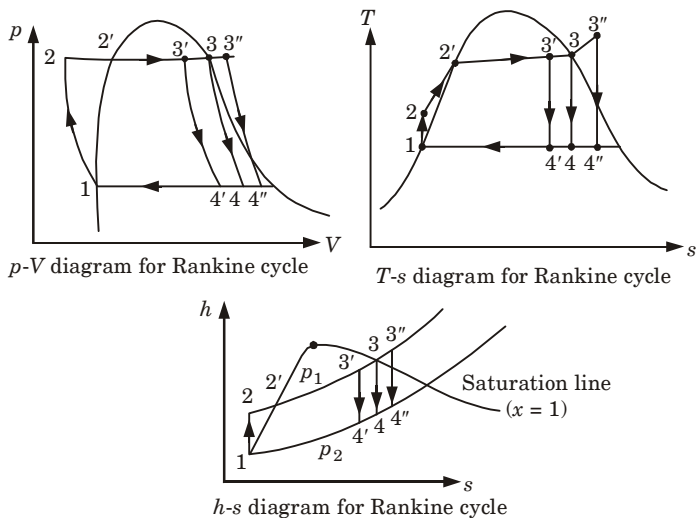

Fig. 4.12.1.
A. p - V , T - s and h - s diagram for simple Rankine Cycle : Refer Q. 4.12, (Fig. 4.12.1), Page 4-17C, Unit-4.